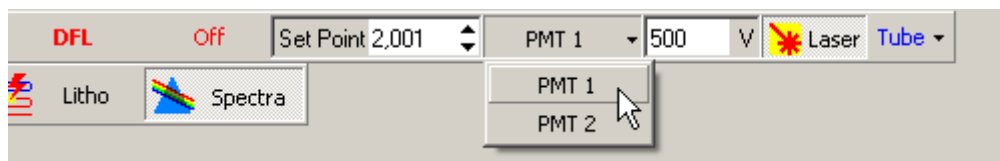

Fig. 12-23. Selecting the PMT1 signal
5. Choose the **PMT1** signal in the drop-down list of the Main Parameters panel (Fig. 12-23).